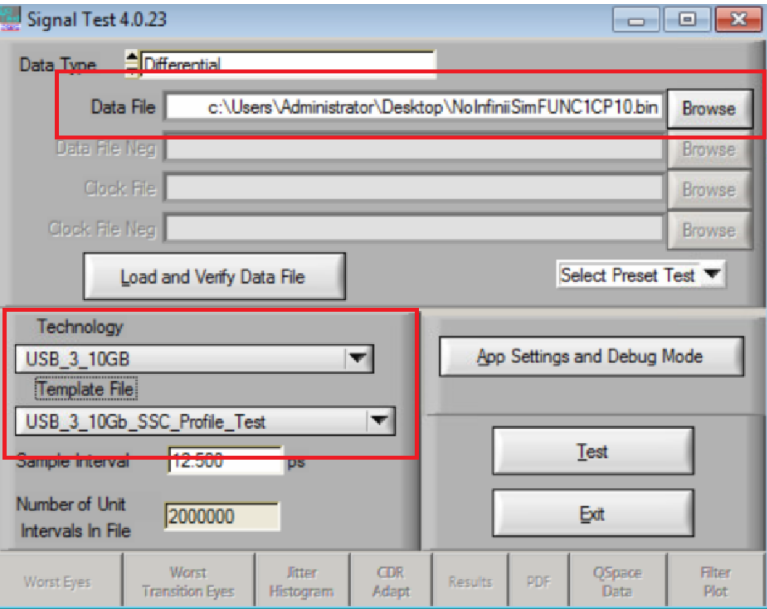

Figure 60 Selecting the SSC Template File on the SigTest tool
- b Ensure that SSC template is selected. See Figure 60.